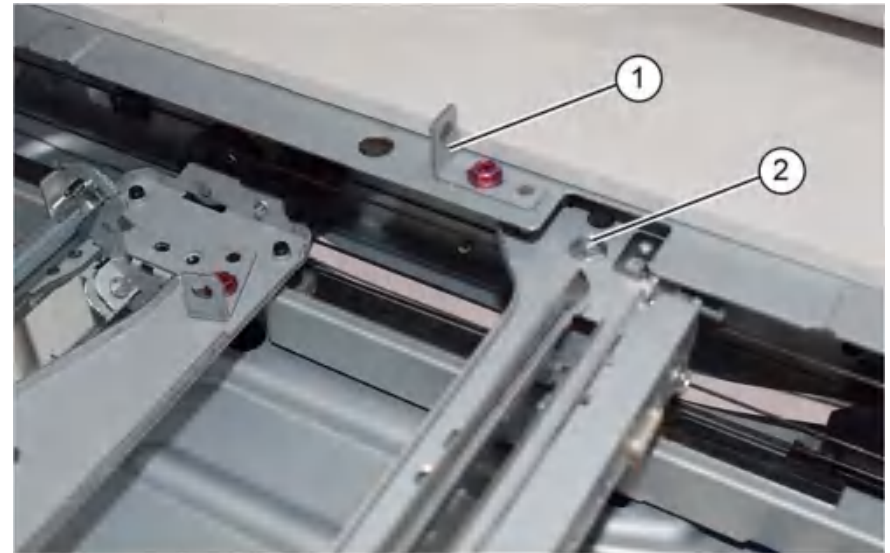

Figure 6 Carriage setting
8. Secure the rear cable to the full rate carriage, Figure 6:
- a. Remove the alignment pin from the front of the half rate carriage. Install the alignment pin (1) to the rear of the full rate carriage.
- b. Tighten the rear cable securing screw (2).